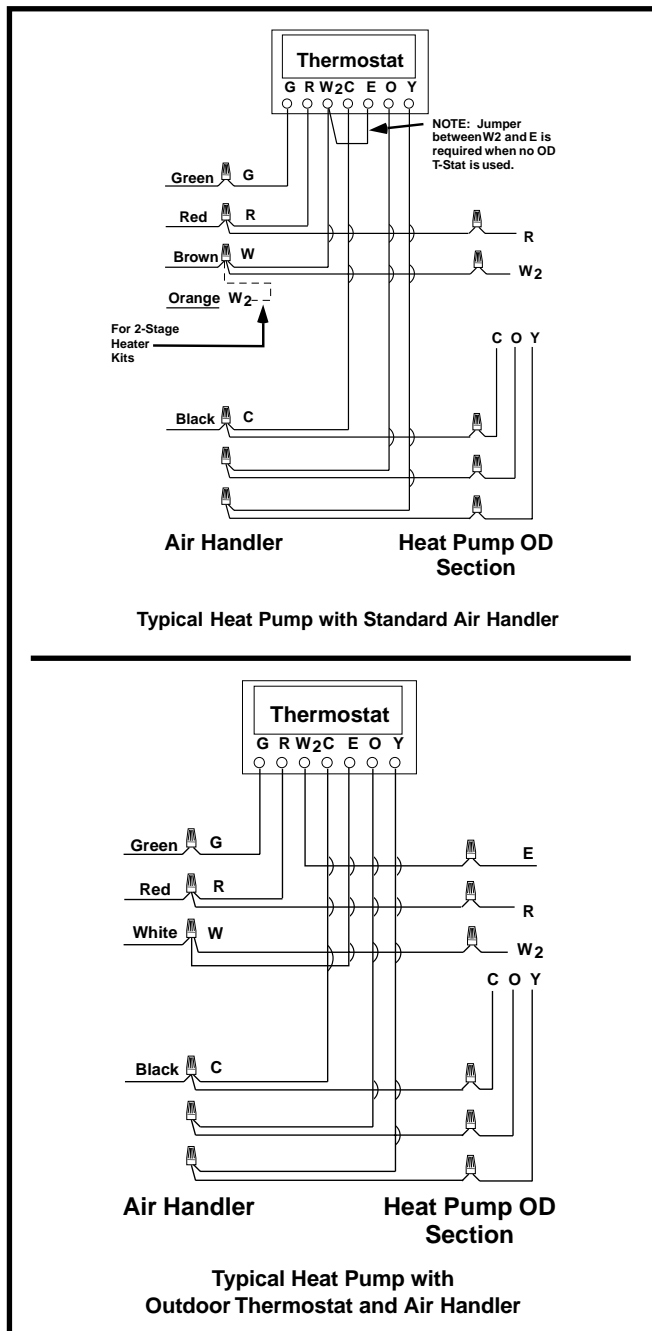

Figure 2. Typical Thermostat Connections
- Thermostat connections should be made in accordance with the instructions supplied with the thermostat and the indoor equipment. See Figure 2 (page 6).